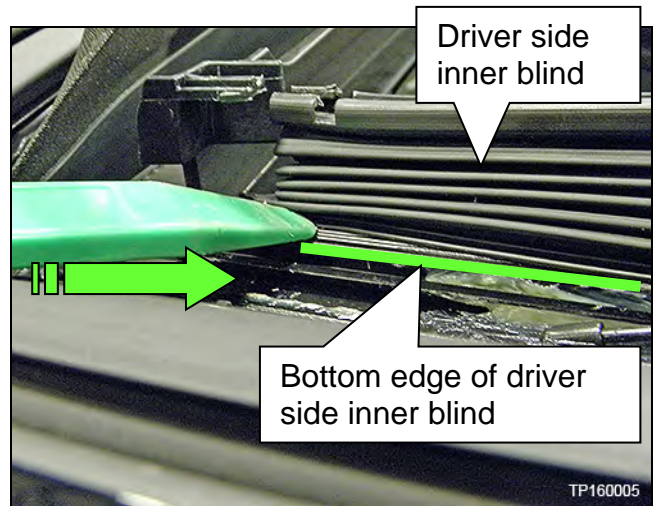

Figure 47
- c. Carefully detach the inner blinds from the moonroof frame by pushing toward the inside of the vehicle along the bottom edge of inner blind (Figure 47).